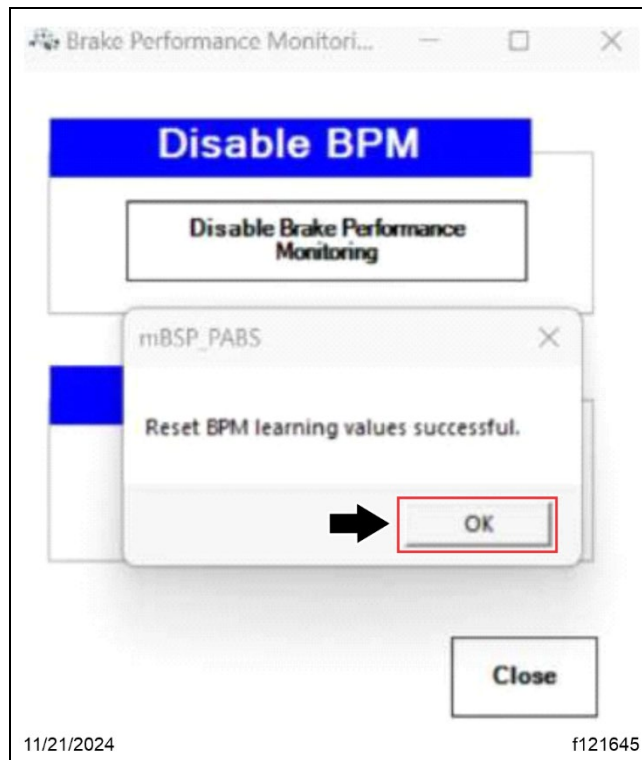

Fig. 65, BPM Learning Values Reset Successful
22.3. A pop-up appears stating reset BPM learning values is successful. Select 'OK.' See Fig. 65.